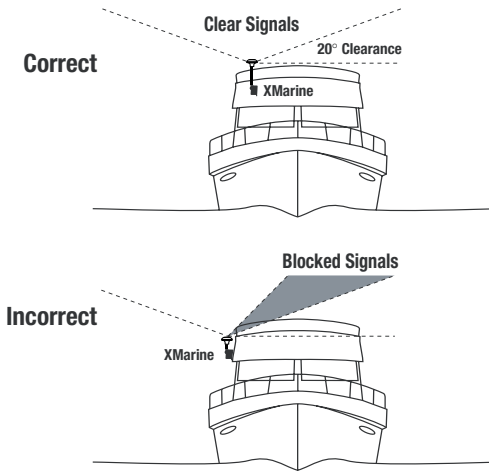

Figure 6. Correct and incorrect TERK XMarine locations on a fishing boat.
- Also, at the proposed site, verify that there is at least a 20-degree clearance from any metallic obstruction on all sides, as shown in figure 6 (on the next page).